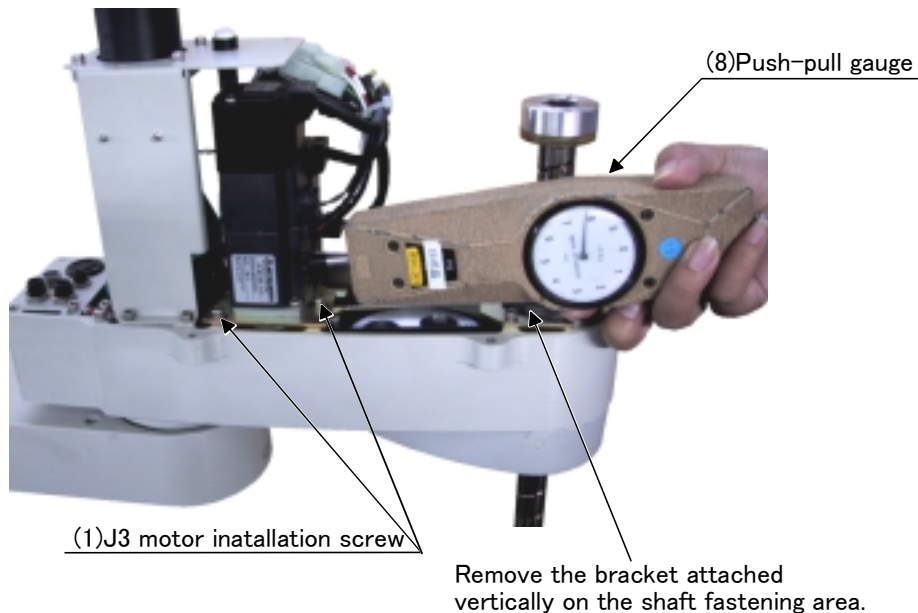

Fig.5-5 : J3 axis timing belt tension
- 11) For more accurate tension adjustment, the use of the method as shown in Fig. 5-5 is recommended.